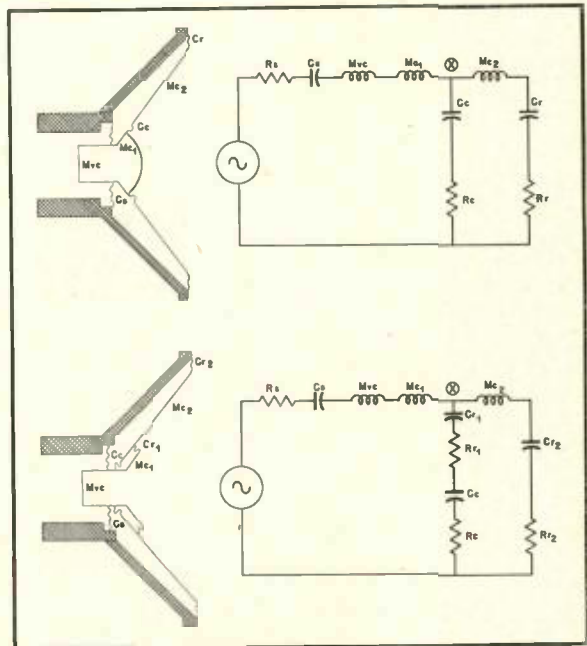

Fig. 9-5. (A), Mechanical system of a two-cone, single-voice-coil speaker and electrical analogy. (B), Variation of (A).
The principle of inserting cone corrugations for controlling break-up may be followed through in a special design which uses definite segregated vibration systems in the cone and/or voice coil. In Fig. 9-5, (A) illustrates a speaker of this design, in current commercial use, which has an aluminum dome-shaped diaphragm for high-frequency sound propagation and dispersion. At low frequencies the entire suspended mechanism vibrates as a unit, but at high frequencies the small cone and diaphragm are able to vibrate by themselves because of their compliance with the cone proper.
The reader will find that tracing the equivalent electrical circuit of this speaker system increases appreciation of the way it works. In (A) of Fig. 9-5, the magnetomotive force must always overcome the friction of the spider R_s , the stiffness of the spider, determined by C_s , the mass inertia of the voice coil M_{vc} , and the inertia of the first section of cone and aluminum dome M_{c_1} . At this point, marked X on the diagram, there is a choice of path. At low frequencies C_c will have a high impedance (will remain mechanically stiff) and M_{c_2} a low impedance, so that current will flow through M_{c_2} rather than C_c . The current through M_{c_2} will be the same as that through M_{c_1} , which represents the fact that the two sections will have the same velocity and will move as one.